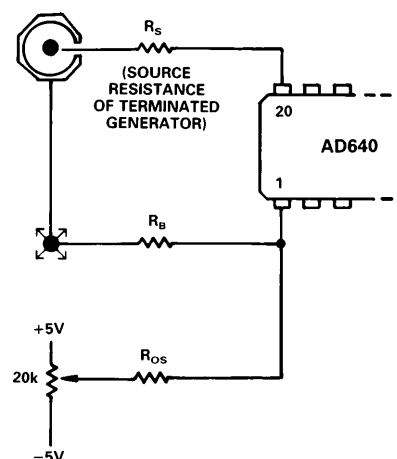

Figure 25. Optional Input Offset Voltage Nulling Circuit; See Text for Component Values
In most applications there will be no need to use any offset adjustment. However, a general offset trimming circuit is shown in Figure 25. R_S is the source resistance of the signal. *Note: 50 Ω rf sources may include a blocking capacitor and have no dc path to ground, or may be transformer coupled and have a near zero resistance to ground.* Determine whether the source resistance is zero, 25 Ω or 50 Ω (with the generator terminated in 50 Ω) to find the correct value of bias compensating resistor, R_B , which should optimally be equal to R_S , unless $R_S = 0$, in which case use $R_B = 5$ Ω . The value of R_{OS} should be set to $20,000R_B$ to provide a ± 250 μV trim range. To null the offset, set the source voltage to zero and use a DVM to observe the logarithmic output voltage. Recall that the LOG OUT current of the AD640 exhibits an *absolute value response* to the input voltage, so the offset potentiometer is adjusted to the point where the logarithmic output "turns around" (reaches a local maximum or minimum).
R4 is identical to R2, and in shunt with R3 (270 Ω thin film) forms a 27 Ω resistor with the same TC as the output resistance of the attenuator. By connecting Pin 1 to ATN LOW (Pin 2) this resistance minimizes the offset caused by bias currents. The offset nulling scheme shown in Figure 25 may still be used, with the external resistor R_B omitted and $R_{OS} = 500\text{ k}\Omega$. Offset stability is improved because the compensating voltage introduced at Pin 20 is now PTAT. Drifts of under 1 $\mu\text{V}/^\circ\text{C}$ (referred to Pins 1 and 20) can be maintained using the attenuator.
Cascaded AD640s can be used in dc applications, but input offset voltage will limit the dynamic range. The dc intercept is 6 μ V. *The offset should not be confused with the intercept*, which is found by *extrapolating* the transfer function from its central “log linear” region. This can be understood by referring to Equation (1) and noting that an input offset is simply additive to the value of V_{IN} in the numerator of the logarithmic argument; it does not affect the denominator (or intercept) V_X . In dc coupled applications of wide dynamic range, special precautions must be taken to null the input offset and minimize drift due to input bias offset. It is recommended that the input attenuator be used, providing a practical input range of -74 dBV (± 200 μ V dc) to +6 dBV (± 2 V dc) when nulled using the adjustment circuit shown in Figure 25.